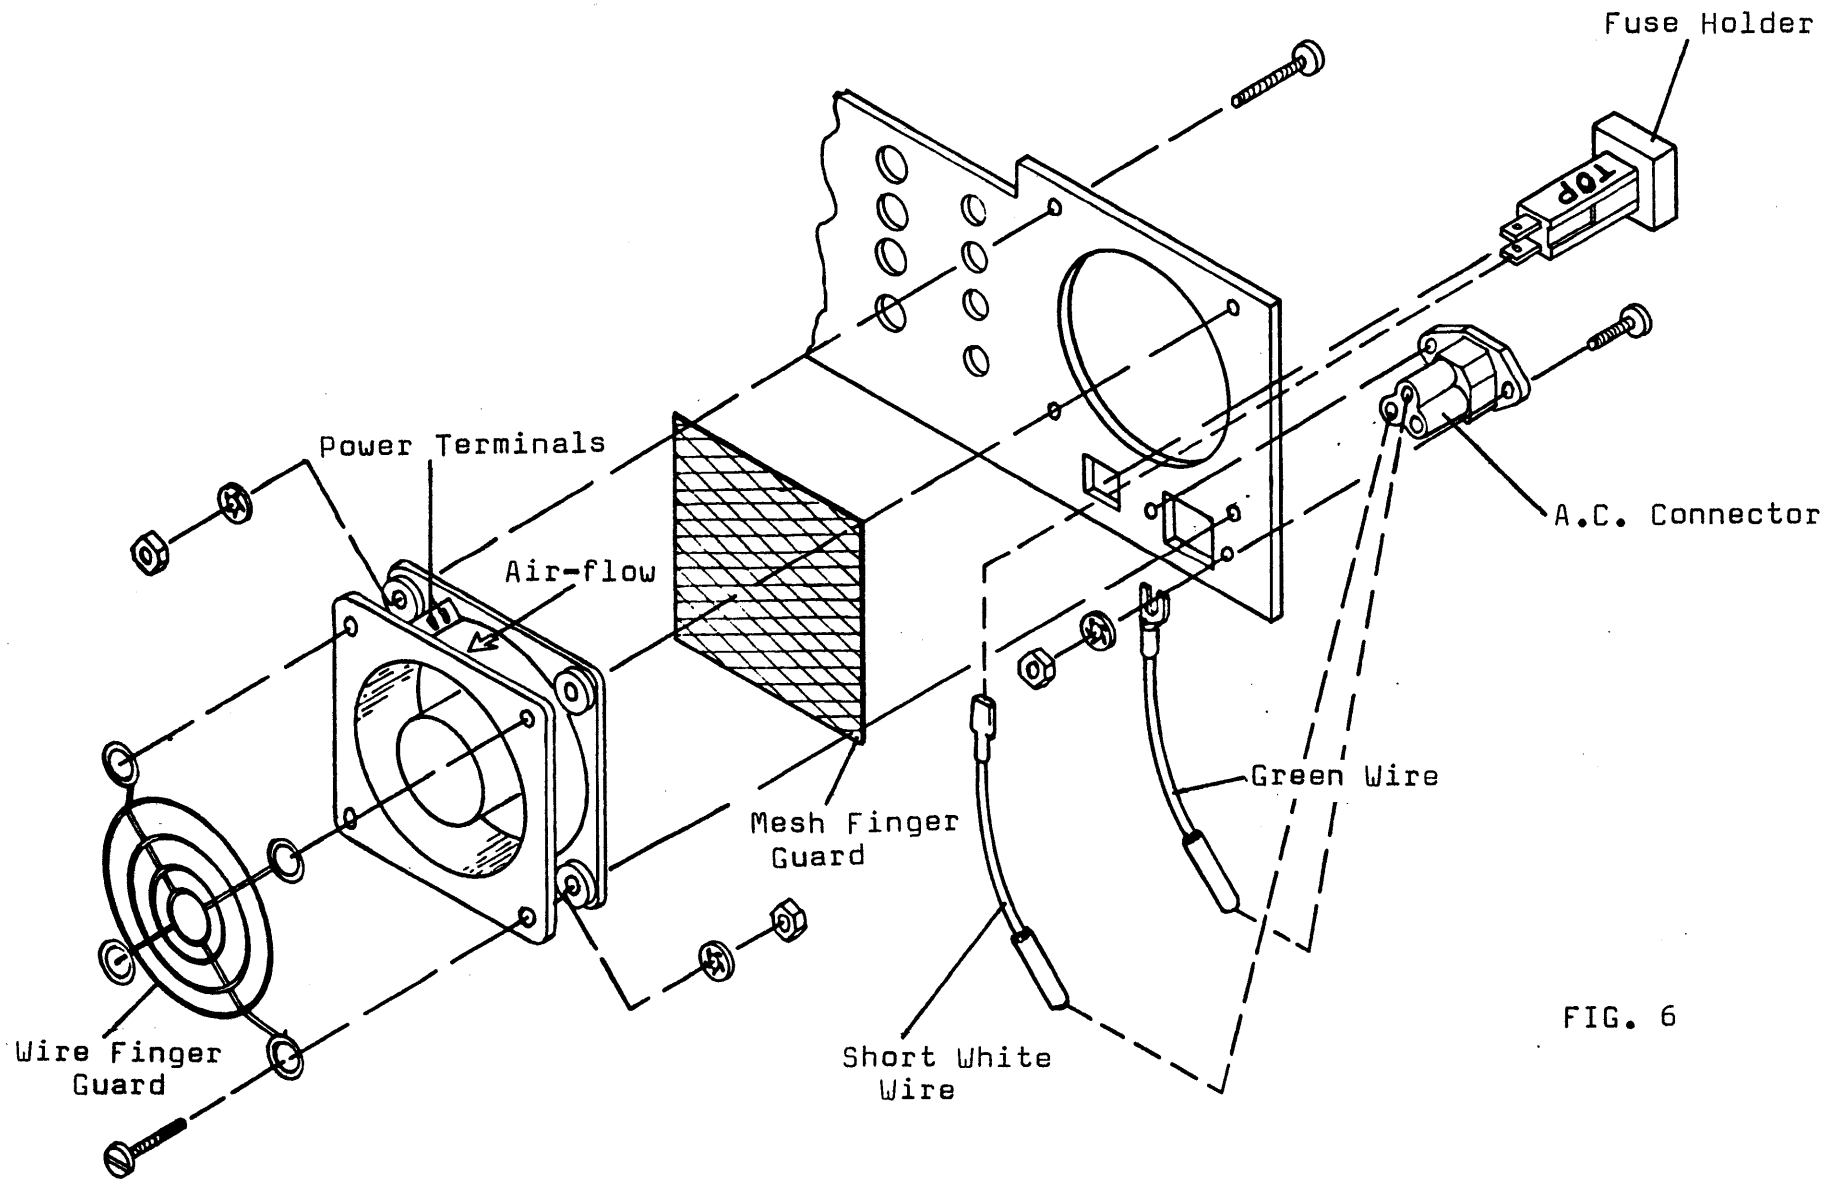

FIG. 6
- () Locate the fan. Observe the location of the power terminals and the air-flow arrow. See Fig. 6.